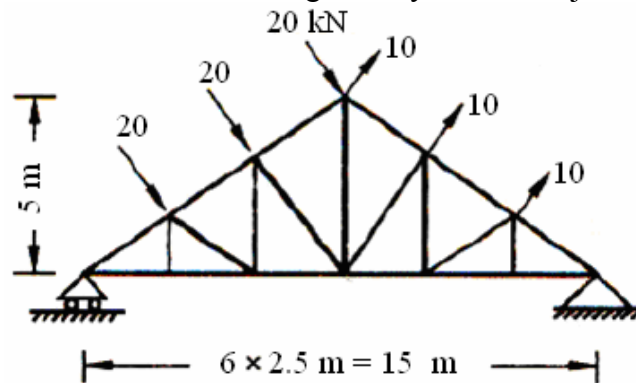

Figure 4:
5. Analyze the truss indicated in the figure 4 by method of joints. [16]